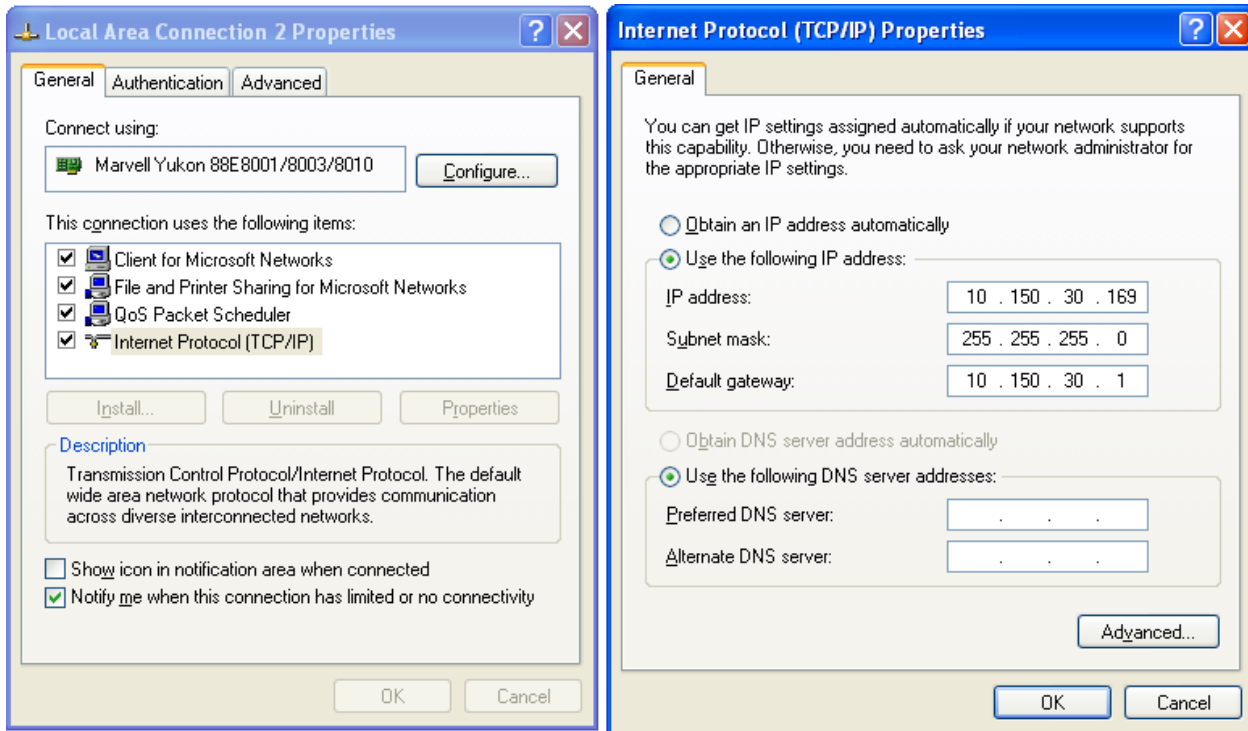

Figure 4-1: TCP/IP Properties
6. Configure your computer's LAN settings so that your PC has a non-conflicting IP address and uses the same SUBNET MASK and GATEWAY. As shown in Figure 4-1.